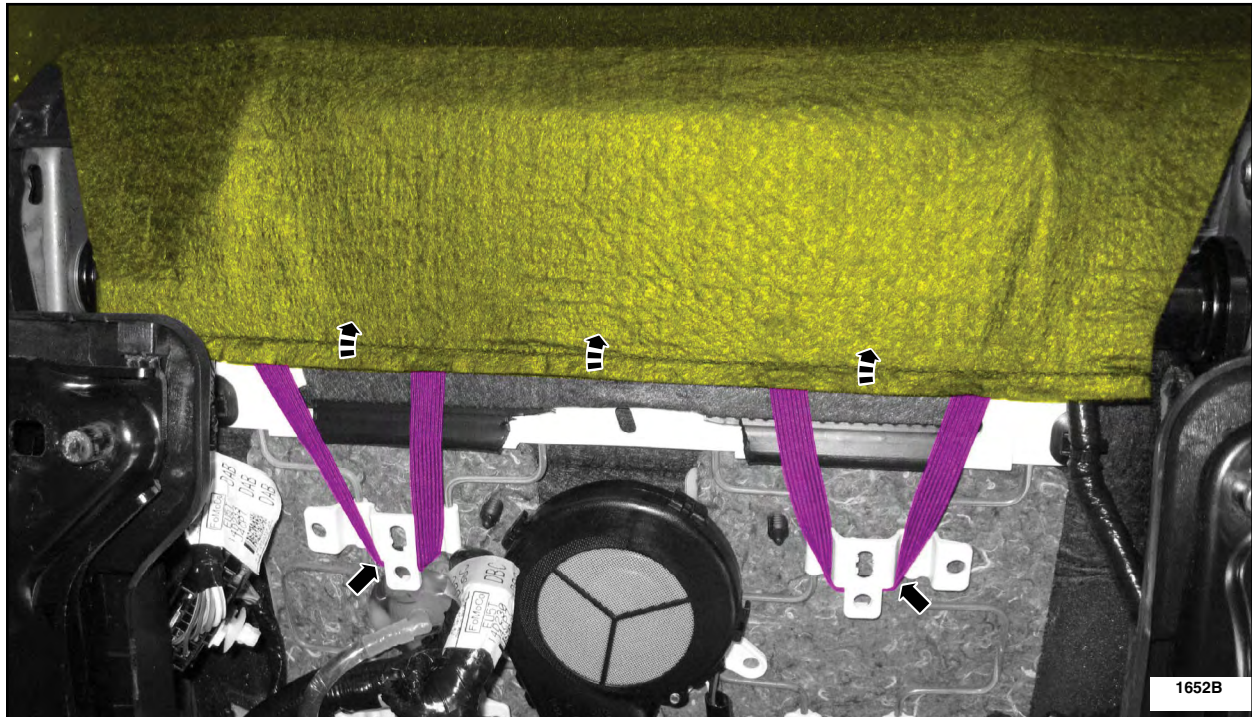

FIGURE 6
7. Detach the two backrest cover straps and position the backrest cover upward. See Figure 6.